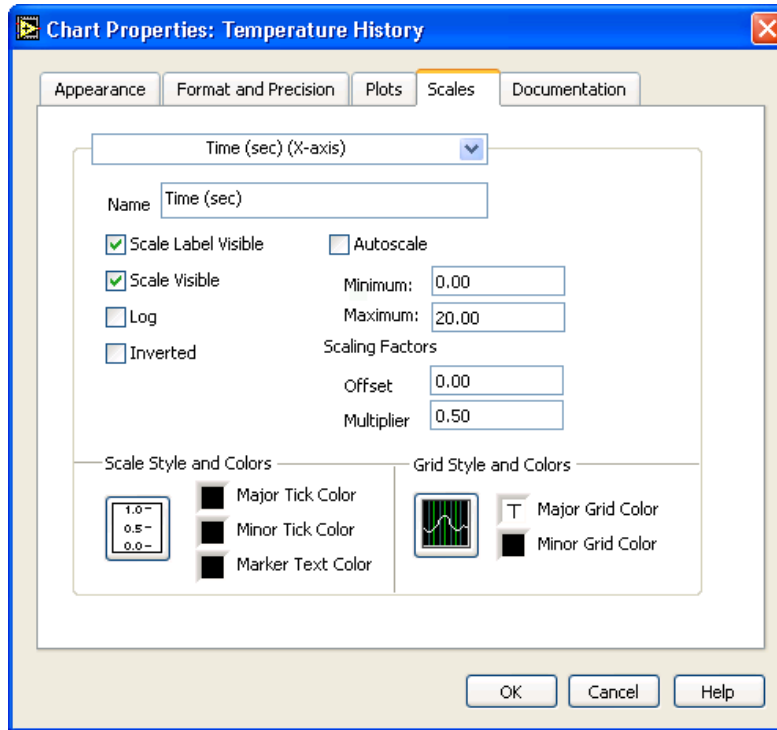

Figure 5.8
- d. Select the **Scales** tab and select the **Time (sec) (X-axis)** in the top pull-down menu. Set the scale options as shown in Figure 5.8. Set the **Multiplier** to 0.50 to account for the 500 ms Wait function.